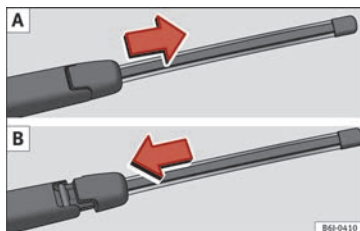

Fig. 90 Removing and fitting the rear window wiper blade.
- Slide the blade adapter in the direction of the arrow and remove the blade » **Fig. 90 A.**
- Place the blade as shown in » **Fig. 90 B** and slide the adapter along until it engages.